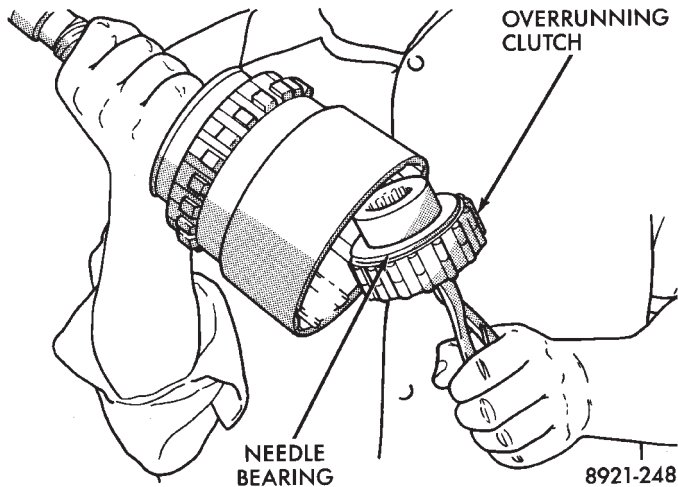

Fig. 25 Overrunning Clutch Assembly Removal/Installation
(3) Remove overrunning clutch assembly with expanding type snap ring pliers (Fig. 25). Insert pliers into clutch hub. Expand pliers to grip hub splines and remove clutch with counterclockwise, twisting motion.